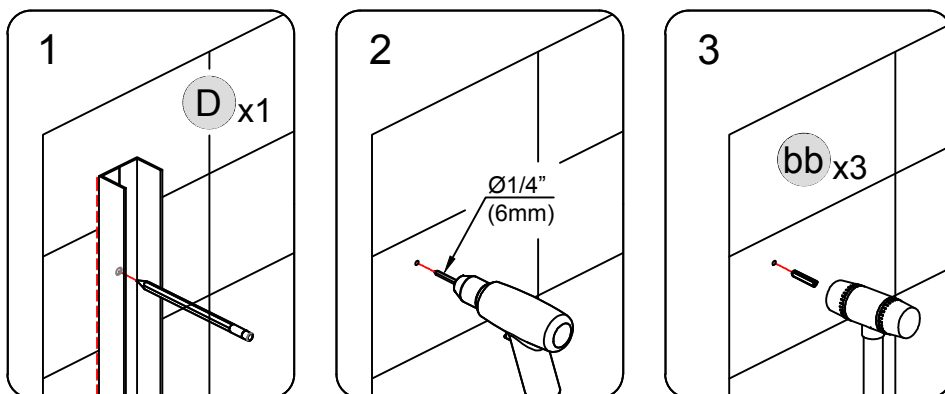

Fig 8
Move the frame assembly aside and remove the **Wall Jamb (D)**. Put **Wall Jamb (D)** back to the position marked in the previous step, and then mark the required hole. Drill the holes into the walls using a $\varnothing 1/4"$ (6mm) drill bit and insert the **Wall Anchors (bb)**. Repeat this process for the opposite wall jamb. (Fig 8)